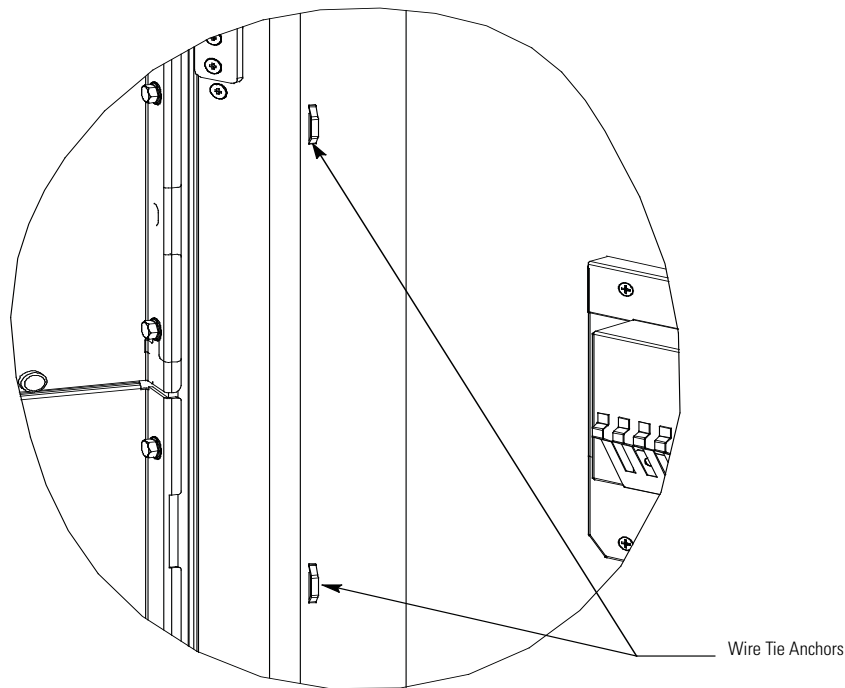

Figure 4-12. Wire Tie Anchors
12. Secure the wiring to the wire tie anchors provided (see Figure 4-12) using Zip ties.
10. Secure the wiring to the wire tie anchors provided (see Figure 4-12) using Zip ties.